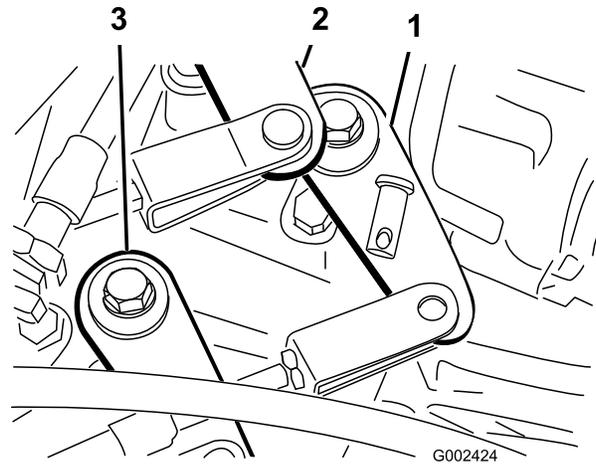

Figure 47
2. Remove the clevis pins securing the shift cables to the transaxle shift arms (Figure 47).
1. Remove the clevis pin securing the High-Low cable to the transaxle (Figure 47).